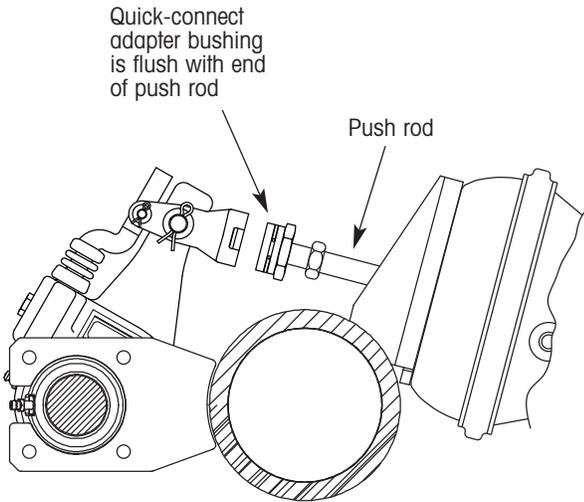

Figure 8. Threading adapter bushing onto push rod
- Thread the quick-connect adapter bushing onto the push rod until it is flush with the end of the push rod (figure 8).